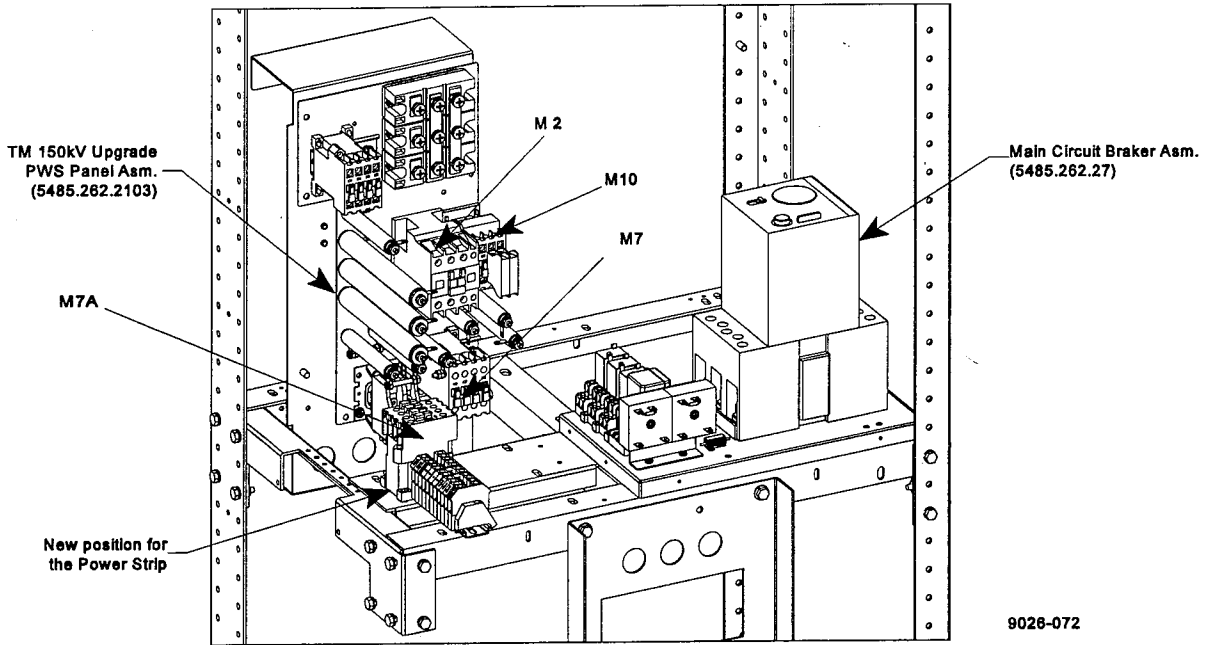

FIGURE 2 POWER SHELF (REAR VIEW)
- ✓ 2. Install Main Circuit Breaker Assembly 5485.262.27 (see FIGURE 2), using provided
- ✓ 13. Reinstall Power Terminal Strip (with Aux Cont. M7A for R/F system) to its new location, as shown in **Figure 2**.